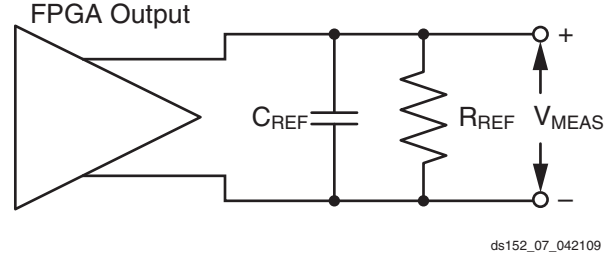
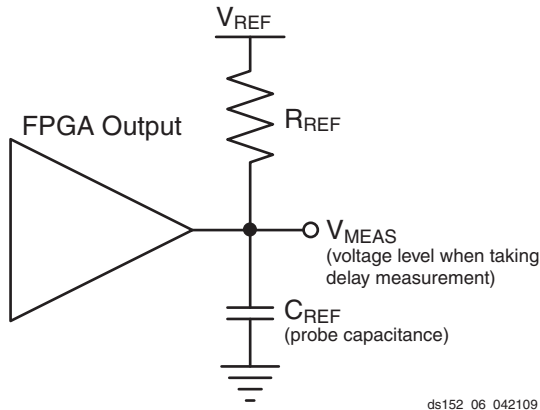

Figure 15: Differential Test Setup
Figure 14: Single Ended Test Setup
- This is an input voltage reference that bears no relation to the VREF / VMEAS parameters found in IBIS models and/or noted in Figure 14.
Output delays are measured using a Tektronix P6245 TDS500/600 probe (< 1 pF) across approximately 4" of FR4 microstrip trace. Standard termination was used for all testing. The propagation delay of the 4" trace is characterized separately and subtracted from the final measurement, and is therefore not included in the generalized test setups shown in Figure 14 and Figure 15.